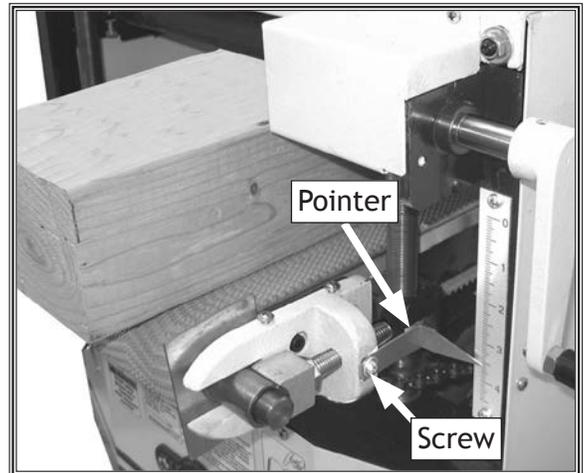

Figure 41. Pointer calibration.
1. Sand a workpiece (see Figure 41) with the drum sander and measure the thickness of the sanded workpiece.